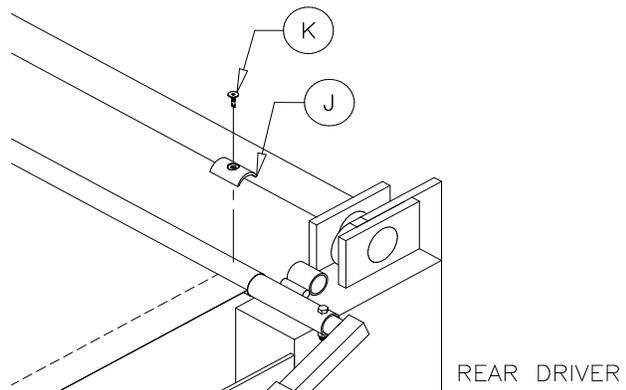

Figure 16
Center the rear tarp pocket on the rear pivot arm crossmember (F). Position a pvc rear tarp clamp (J) on both edges of the tarp material. Fasten both tarp clamps to the tarp and rear pivot arm crossmember (F) with the #10-24x3-4 wafer head screws (K) provided (see Figure 16).